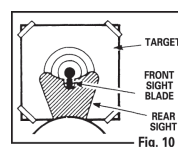

Fig. 10
- The airgun is correctly aimed when the front sight blade is positioned exactly in the center of the notch of the rear sight. The top of the front sight blade should be even with the top of the notch in the rear sight. The bulls-eye should appear forest on the top of the front sight. (Fig. 10)